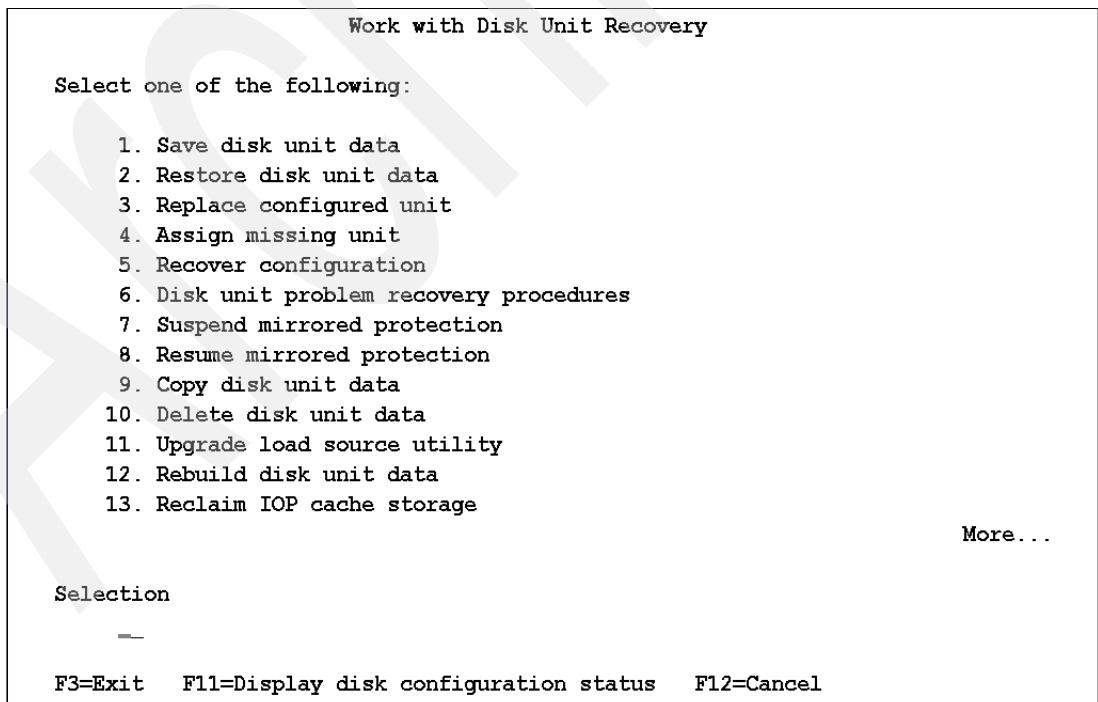

Figure 3-19 The Work with Disk Unit Recovery screen
9. In the Work with Disk Unit Recovery screen (Figure 3-19), enter 6 (Disk unit problem recovery procedures).
12. Return to the Work with Disk Unit Recovery screen (Figure 3-19 on page 72) and enter 9 (Copy disk unit data).